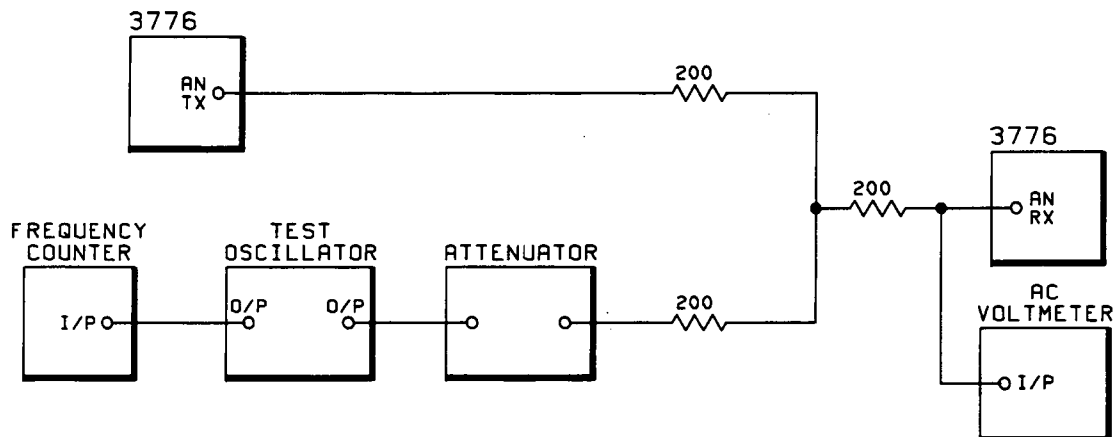

Figure 4-53 3776A Impulse Noise Threshold Range, Threshold Accuracy and Input Holding Tone Requirement Test Circuit.
1. Connect up the equipment as shown in Figure 4-53 with the Attenuator set to 0dB.